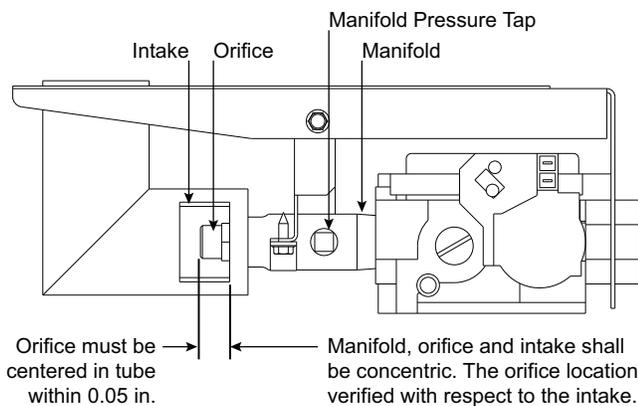

Fig. 51 — Orifice Projection and Placement
Refer to Fig. 51 for projection and placement dimension for orifice face to manifold tube. The manifold, orifice and intake shall be concentric. The orifice must be centered in the intake tube.
2. If factory orifice has been removed, check that each orifice is tight at its threads into the manifold pipe and that orifice projection does not exceed maximum value. See Fig. 51.
2. Remove manifold pressure tap plug from manifold and connect pressure gauge or manometer. (See Fig. 51.)
9. Turn off unit, remove pressure manometer and replace the manifold pressure tap plug. (See Fig. 51.)
Ensure each replacement orifice is tight as its threads into the manifold pipe and the orifice projection does not exceed maximum value. See Fig. 51.